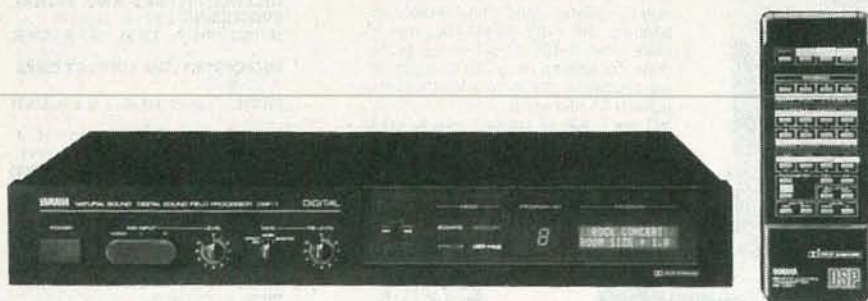

FIG. 1
*DSP-1* Digital Sound Field Processor; that unit is shown in Fig. 1. After hours of listening to the *DSP-1* and study of its technical literature, I told Yamaha that I would be pleased to participate. To my ears, the *DSP-1* appeared to be a genuine advance in the science and art of recreating concert-hall realism in the home.